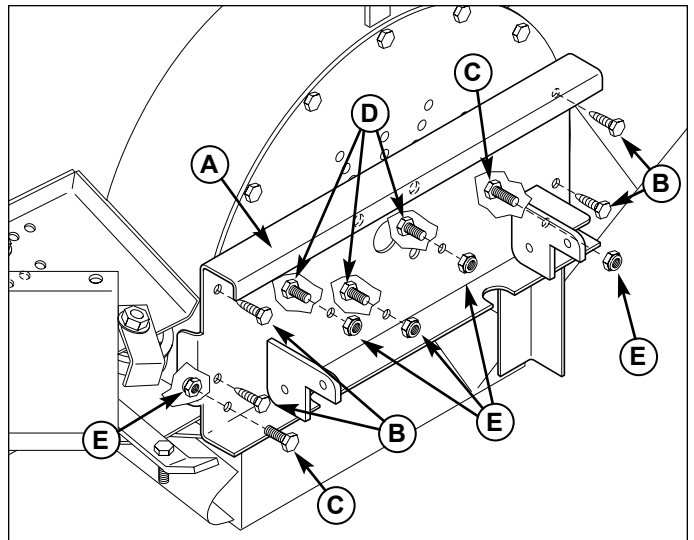

Figure 10. Install Blower Mount Plate
4. Install the blower mount plate (A, Figure 10) onto the back plate of the blower. Install the 5/16-18 x 3/4" self-tapping bolts (B), but do not tighten until all screws have been started. Tighten securely.
5. Install three 5/16-18 x 3/4" bolts (D) near the bearing. Install the two 5/16-18 x 1" bolts (C) in the two remaining holes. Note the direction of the bolts, this is critical. Secure with the 5/16-18 nylon lock nuts (E) as shown.